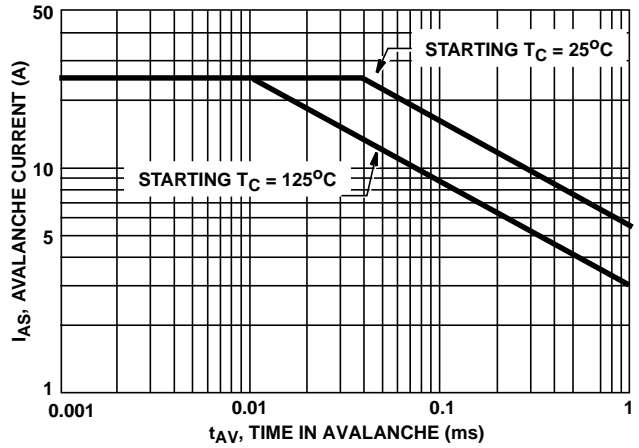

FIGURE 2. UNCLAMPED INDUCTIVE-SWITCHING
3. $V_{DD} = 25\text{V}$, Start $T_J = 25^\circ\text{C}$, $L = 1.5\text{mH}$, $R_{GS} = 50\Omega$, $R = 0$. See Figures 2, 12, and 13.